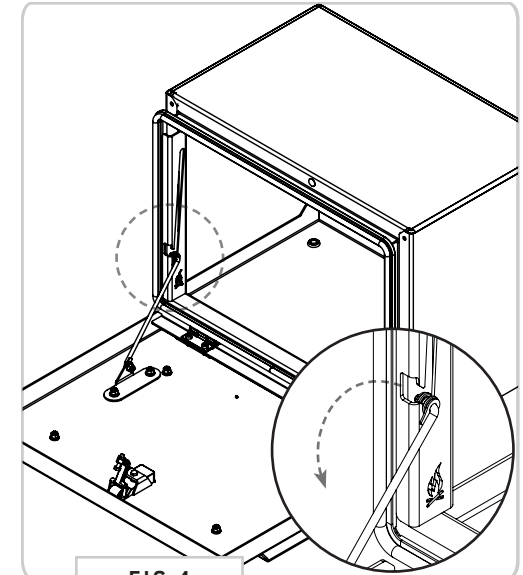

FIG 4
2.5 Release the door by pulling out the **Downstay Rod** from the rail as shown in **FIG 4**.